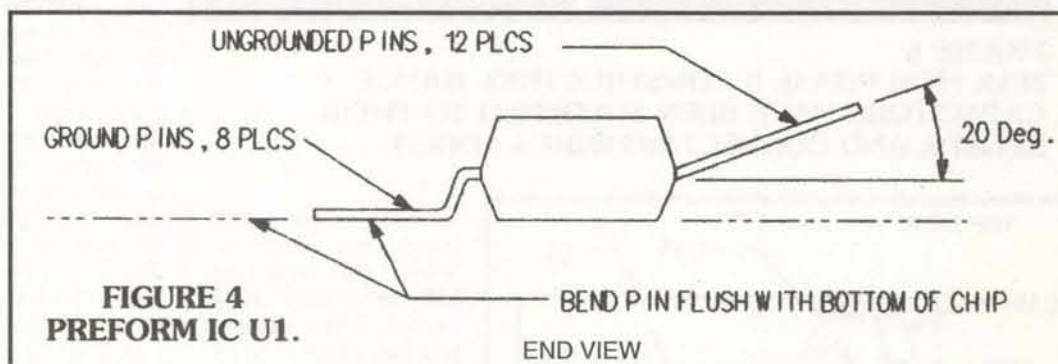
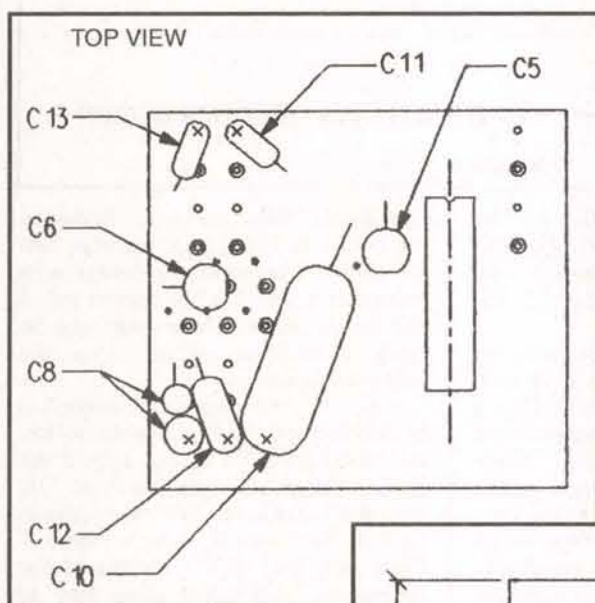

FIGURE 4
FIGURE 5
2) Refer to Figure 4 and pre-form U1, MAX038 chip by first bending all non-ground pins upward to an angle between 10 and 20 degrees above the horizontal plane. The ungrounded pins are 1, 3, 4, 5, 7, 8, 10, 14, 16, 17, 19, and 20. Next, bend the ends of all ground pins horizontally outward, even with the bottom of the chip. These pins should come out from the side, down to the bottom of the chip, and then outward from the chip. The idea is that
5) Preform trimmer capacitor C5 by bending both leads outward and horizontal. Position C5 on the side of the K1-U1 bridge, towards pin 1 of U1, with the flat side of C5's case going to ground. See Figure 5. Refer to Figure 4. Place one lead of C5 on top of the bridge and solder the other lead to ground. With the ground connection holding C5 in place, carefully solder the other lead to the bridge. Again check the bridge to ensure no inadvertent short to ground.
the edge of the circuit board. See Figure 5. Solder the horizontal lead to ground. Now carefully solder the vertical lead of C6 to pin 4 or relay K1. Again, check continuity between the junction of K1-4 and C6 to ground to ensure there are no shorts to ground.